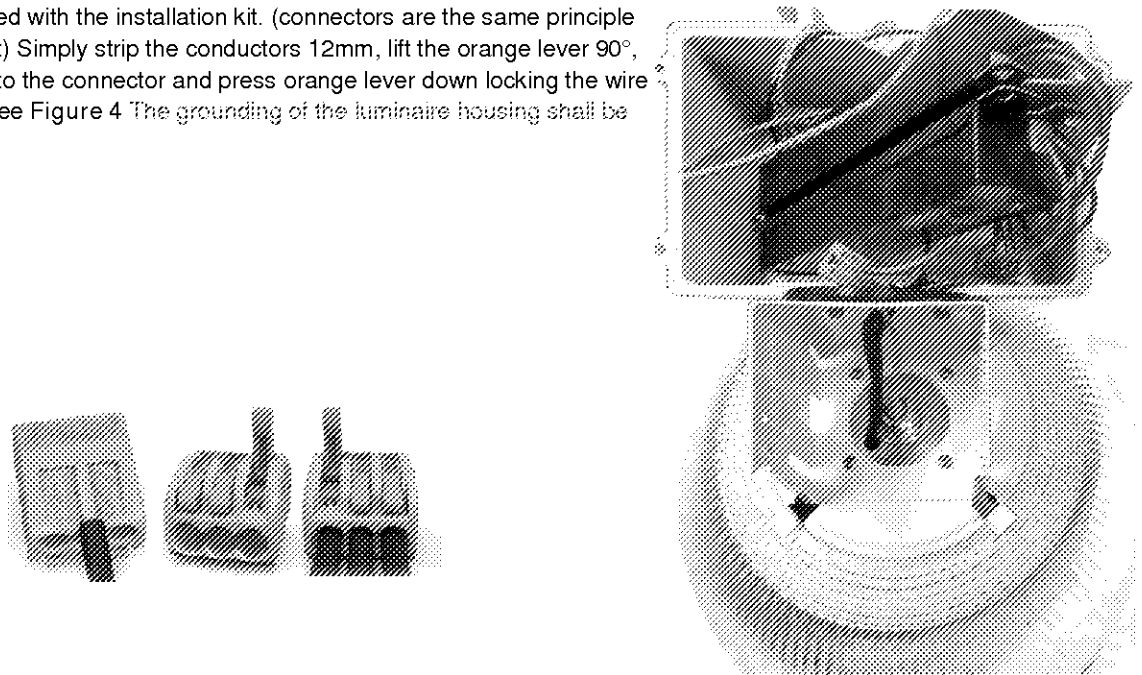

Figure 4
6. Secure the Drivers to the housing using the L Bracket and screw. Then connect the 24v lead wires and ground wire with the supplied wire connectors. Wago 222-413 connectors are included with the installation kit. (connectors are the same principle as a standard wire nut) Simply strip the conductors 12mm, lift the orange lever 90°, push the conductor into the connector and press orange lever down locking the wire into the connection. See Figure 4 The grounding of the luminaire housing shall be maintained.